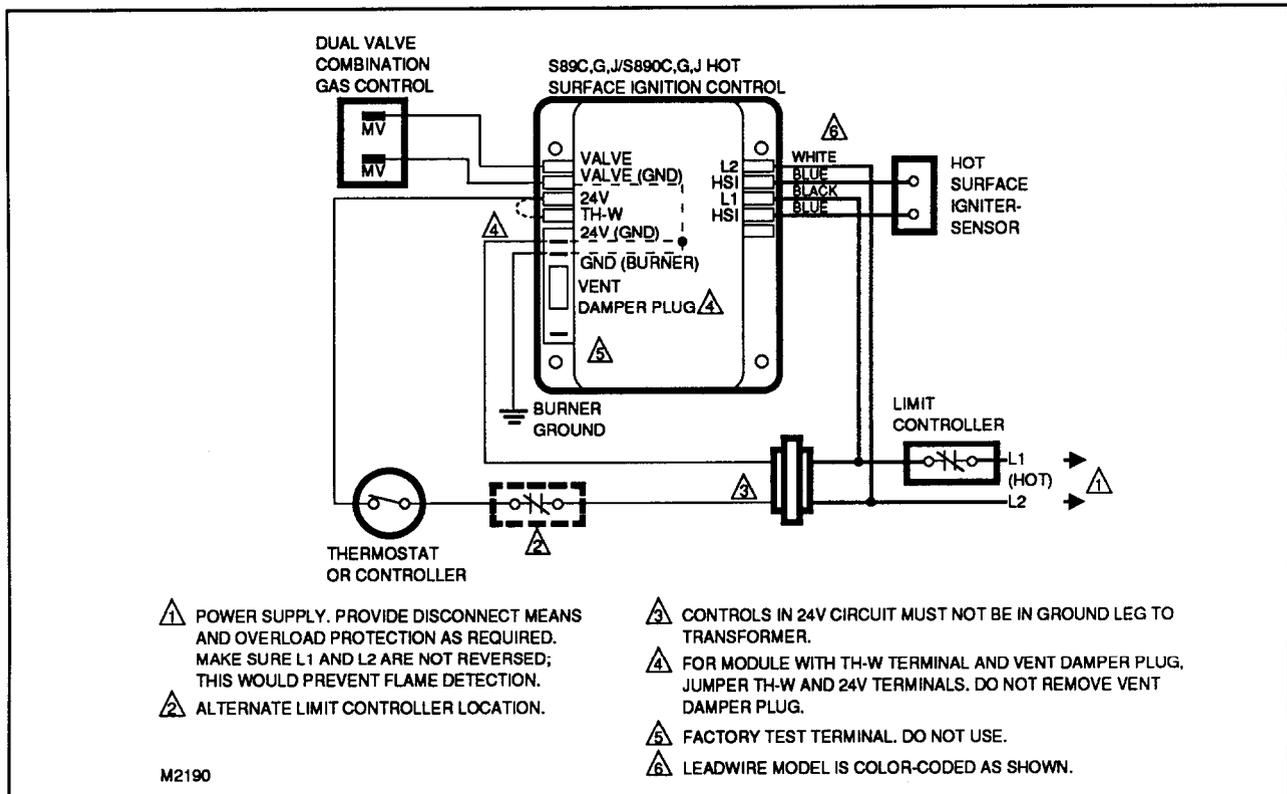
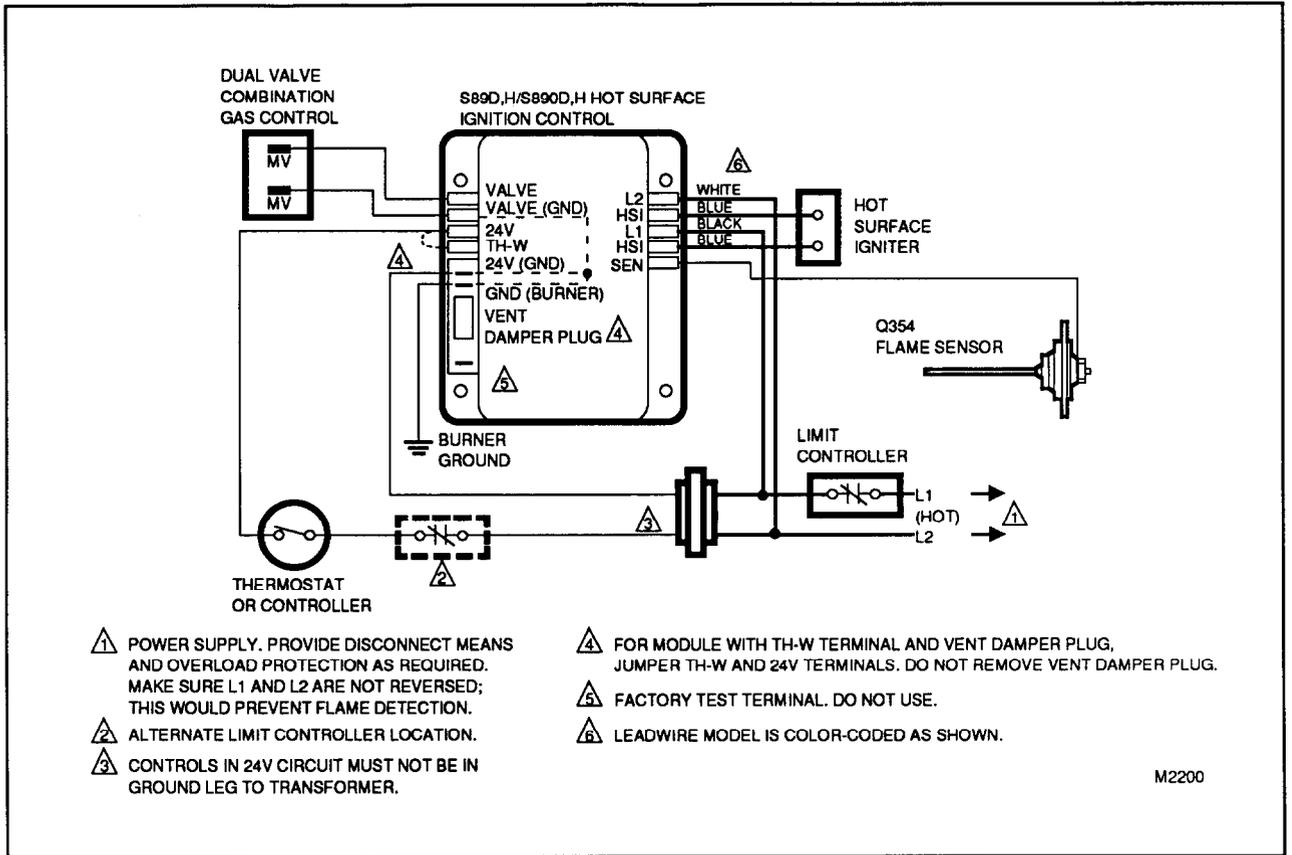

FIG. 2—S89C, G, J AND S890C, G, J IN AN ATMOSPHERIC BURNER HEATING SYSTEM.
FIG. 3—S89D,H AND S890D,H IN AN ATMOSPHERIC BURNER HEATING SYSTEM.
1. Connect remaining system components to the ignition module terminals as shown in the appropriate wiring diagram, Figs. 2 to 10.
- Figs. 2 and 3 are basic circuits for a heating only atmospheric burner system. Fig. 2 shows the C,G and J models with combination igniter-sensor; Fig. 3 shows the D,H models with separate igniter and sensor.
should not be used in a fan-assisted combustion system or an LP gas system and that the vent damper plug must not be removed except to connect a D80D with the plug-in cable. S89D,H/S890D,H with separate igniter and sensor can be substituted in these hookups by simply connecting the sensor as shown in Fig. 3.